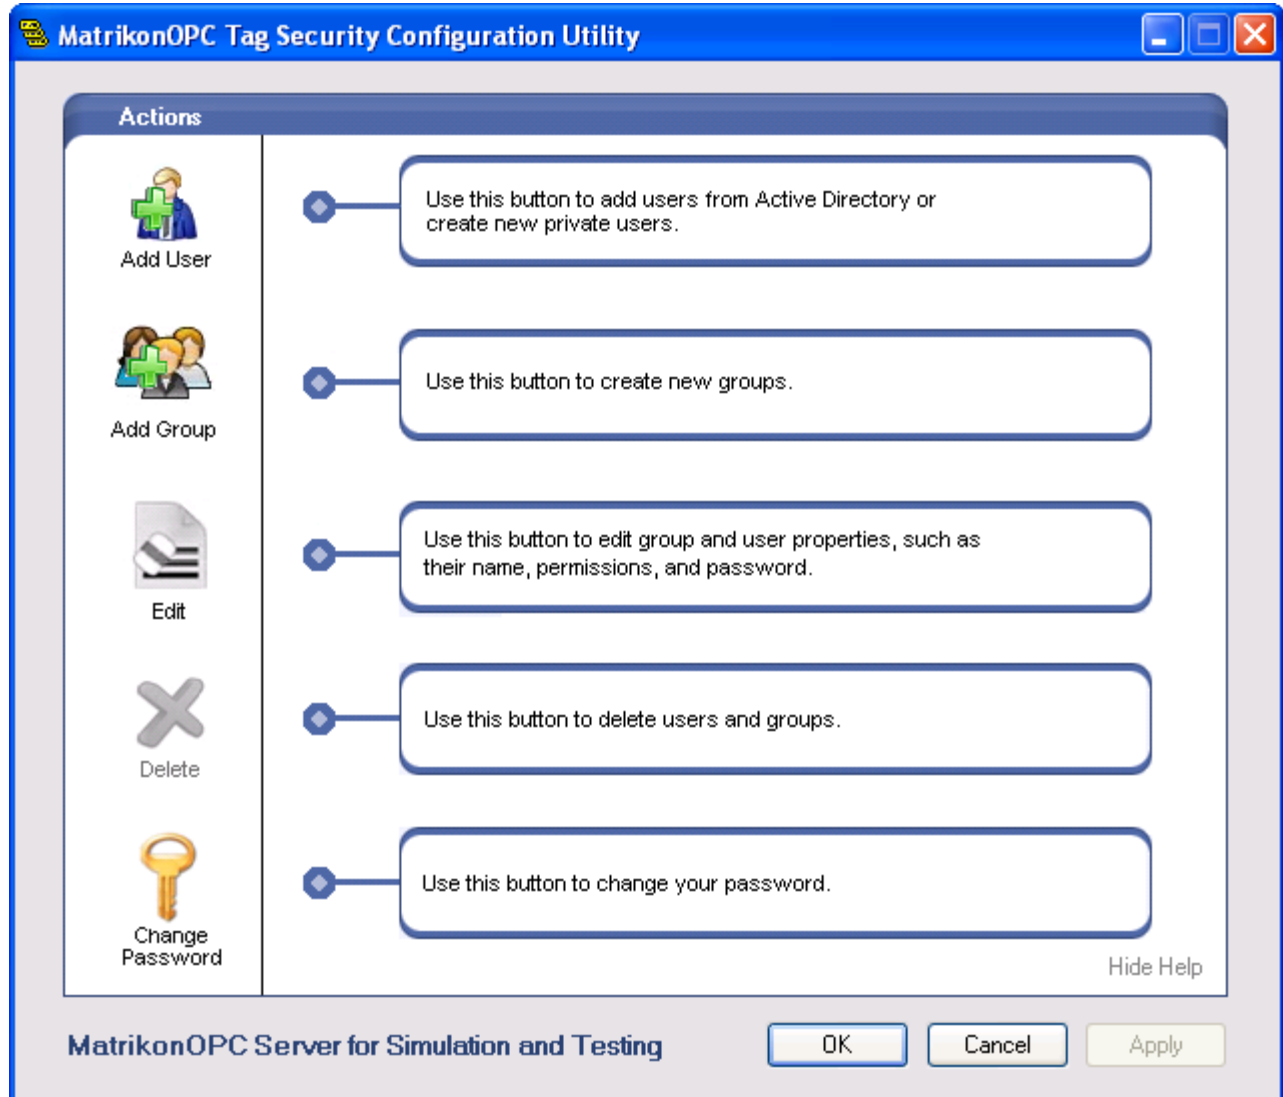

Figure 42 - MatrikonOPC Tag Security Configuration Utility Main Screen
4. The **MatrikonOPC Tag Security Configuration Utility** screen (Figure 42) appears.
The **MatrikonOPC Tag Security Configuration Utility** screen displays the name of the OPC server that is being configured for tag security. In Figure 42 above, the **Utility** screen shows that the **MatrikonOPC Server for Simulation and Testing** tag security is being configured.